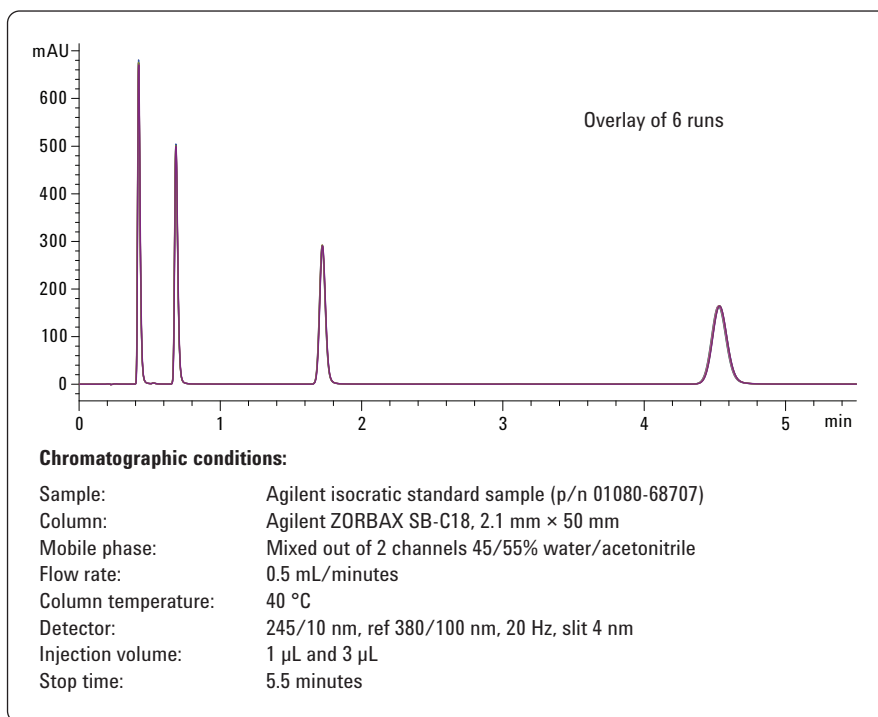

Figure 2
Precise injection is mandatory for good quantitative results in liquid chromatography (LC). The Agilent 1290 Infinity Autosampler can inject precisely over an injection volume range of 0.1 μ L to 20 μ L, or optionally up to 40 μ L. An example of the precision of 1- μ L and 3- μ L injections using conventional conditions is shown here (Figure 2). The precision was <0.161% relative standard deviation (RSD) overall. The results are summarized here (Table 1).